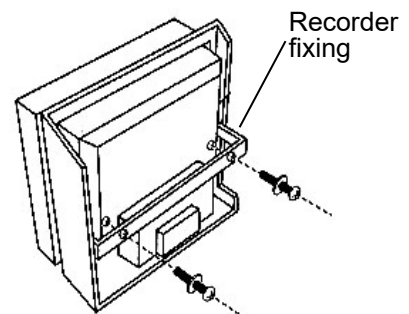

Fig. 2
2. Attach the temperature recorder (MTR-G3504A or MTR-G3504C) to the recorder fixing (MPR-S7) by referring to the instruction manual enclosed with the recorder fixture. [Fig. 2]